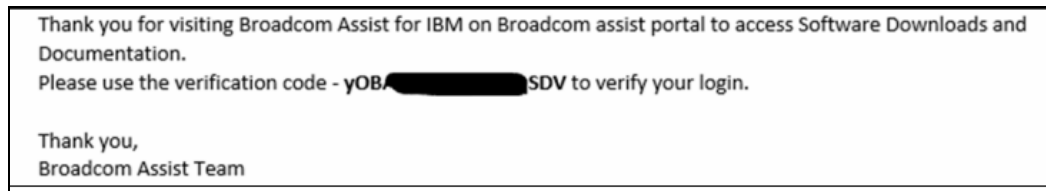

Figure 9-12 Verification code in your email
12. You will be sent a verification code to your email address. See Figure 9-12.